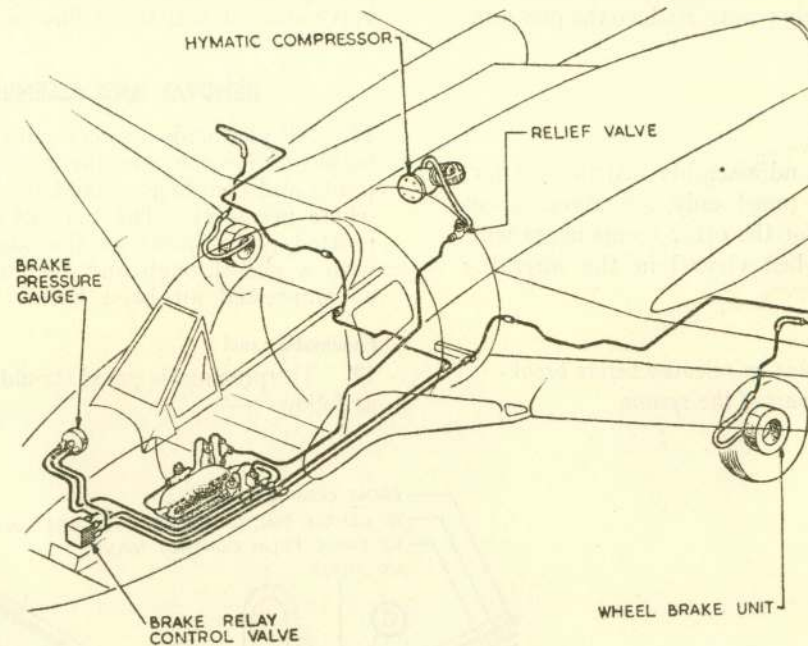
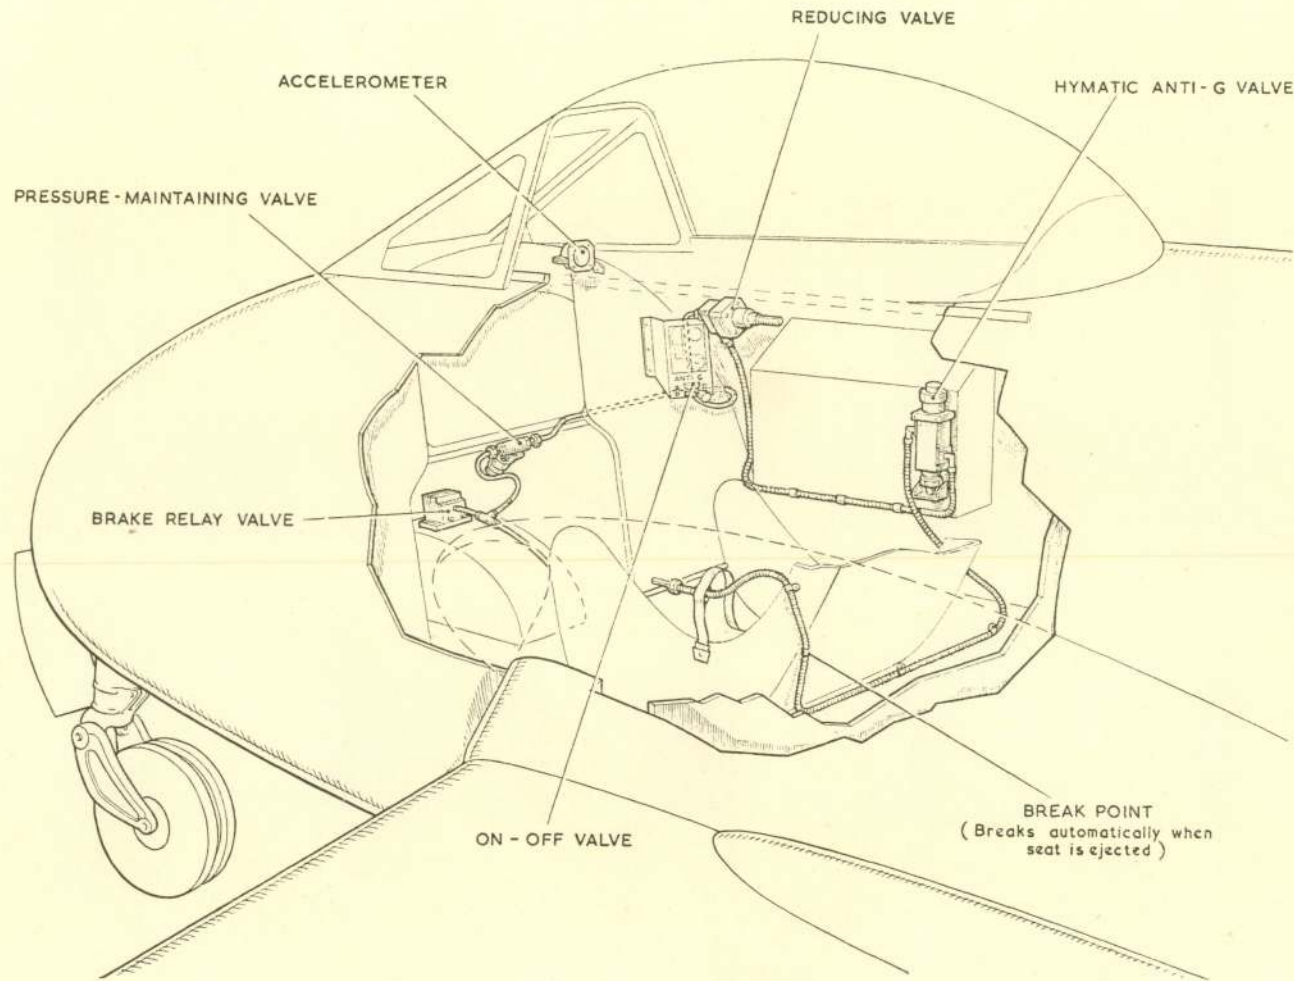

Fig. 4. Pipe runs to brakes
Fig. 6. Anti-G equipment
1. The pneumatic system provides controlled pressure for operating the Dunlop wheel brakes and the anti-G equipment. The two main wheel units have inflatable annular rubber bags which expand the segmented brake shoes radially on the brake drums (*Chap. 5*). The brakes are operated by a lever mounted on the control column in conjunction with the rudder pedals. The latter apply the pneumatic pressure differentially according to the position of the pedals. Fig. 4 illustrates the pipe runs to the brakes and fig. 6 the layout of the anti-G equipment.